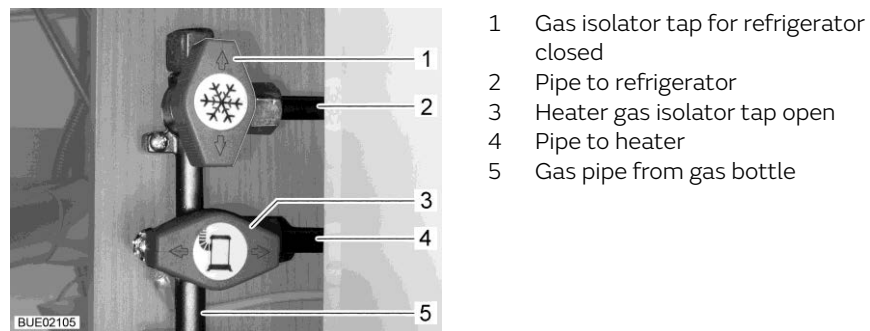

Fig. 130 Gas isolator taps position (example)
- Opening:** ■ Position the gas isolator tap of the corresponding gas device parallel (Fig. 130,3) to the pipe (Fig. 130,4) leading to the gas device.
- Closing:** ■ Position the gas isolator tap of the corresponding gas device transverse (Fig. 130,1) to the pipe (Fig. 130,2) leading to the gas device.